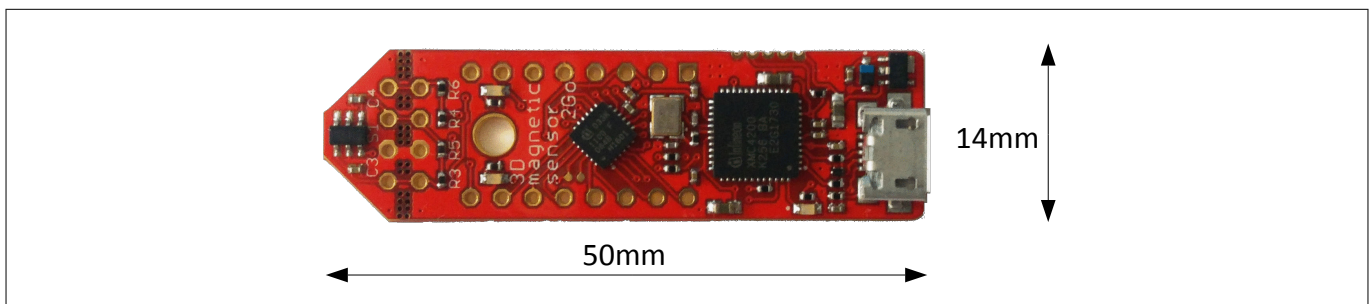

Figure 1 3D Magnetic Sensor 2 Go EvalBoard
- The 3D evaluation board (EvalBoard) as shown in **Figure 1**, a ready-to-use printed circuit board (PCB) with the 3D Hall sensor. The EvalBoard is based on the XMC2Go-Kit. More technical documents and detailed description can be found at <http://www.infineon.com/xmc2go>